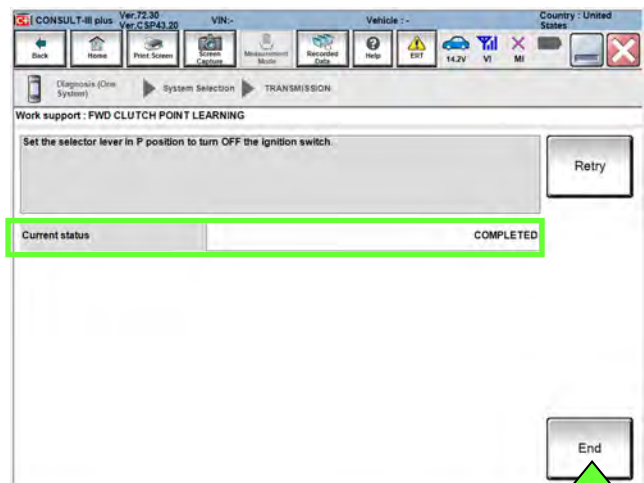

Figure 45
56. When the screen in Figure 45 is displayed, shift the CVT into Park (P), and then select **End**.